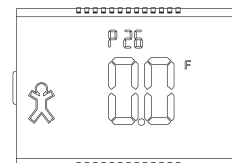

Fig. 11: Temp Offset
- 1) Remove cover from backplate & slide the “MODE” switch on S1 to the “OFFSET” position. The screen in figure 11 will appear on the display. If you previously entered an offset, the offset you entered will show on the display. Either the F or C annunciator will be lit depending on the position of “F/C” Switch
- a. TEMPERATURE OFFSET - Screen P26 (figure 11)